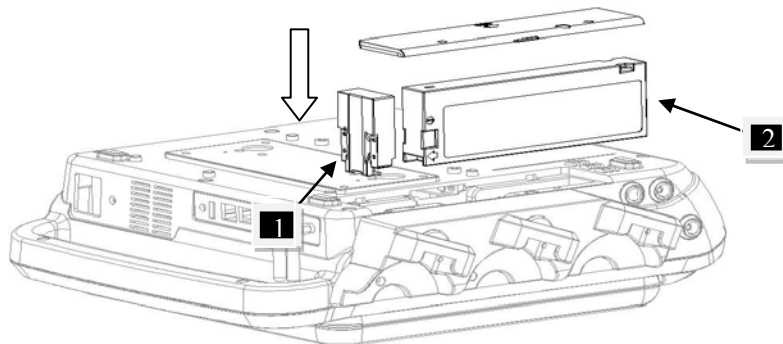

Fig.3-1
- 2) Remove the screws of the battery compartment using a cross-head screw driver. Remove the battery compartment cover, and take out the case 1 ("1", shown as Fig.3-1).
- 3) Plug the battery (2) to the case 1, and then put it into the battery compartment.